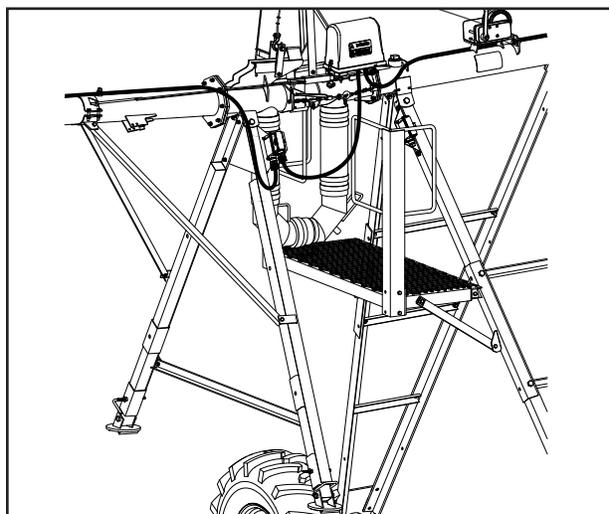

Figure 32-3 Complete Attached DropSpan
18. Attaching spans procedure is complete. Refer to the control panel owners manual for information about starting the machine. See Figure 32-3.